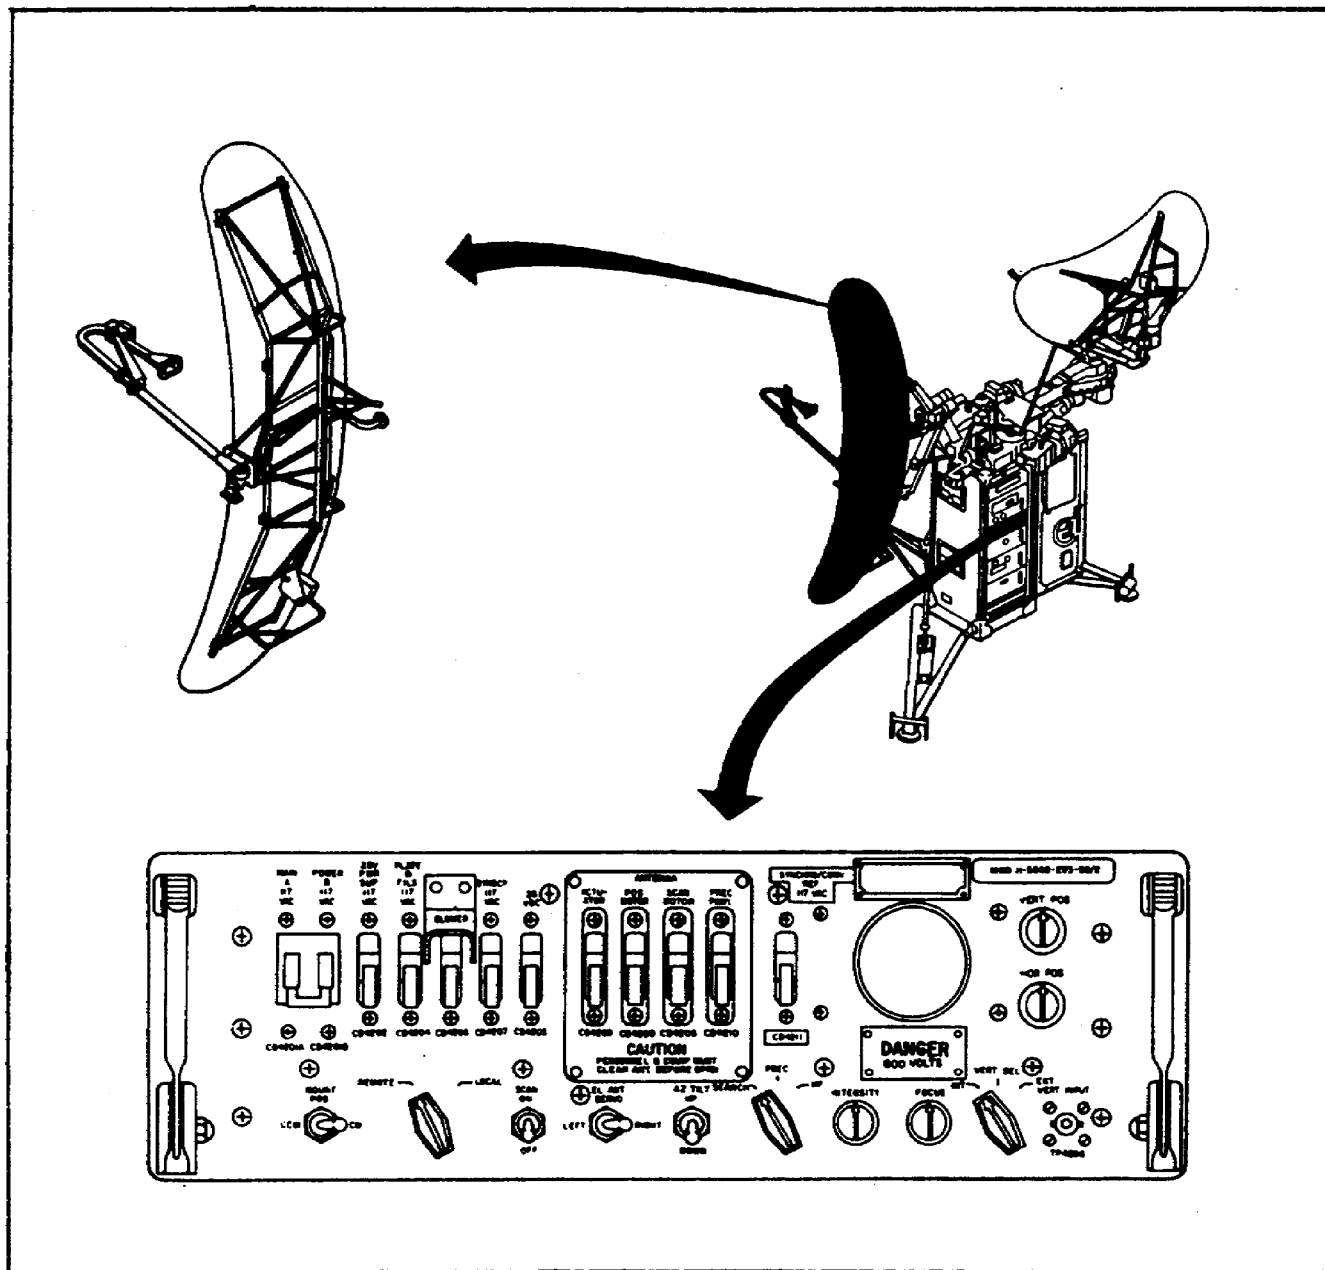

Figure 26. Receiver-transmitter group OA-2667/FPN-40.
(See Figure 26.)
- _____ Elevation antenna AS-1080/FPN-40 (Figure 26)
- _____ Control monitor C-2124A/FPN-33 (Figure 26)